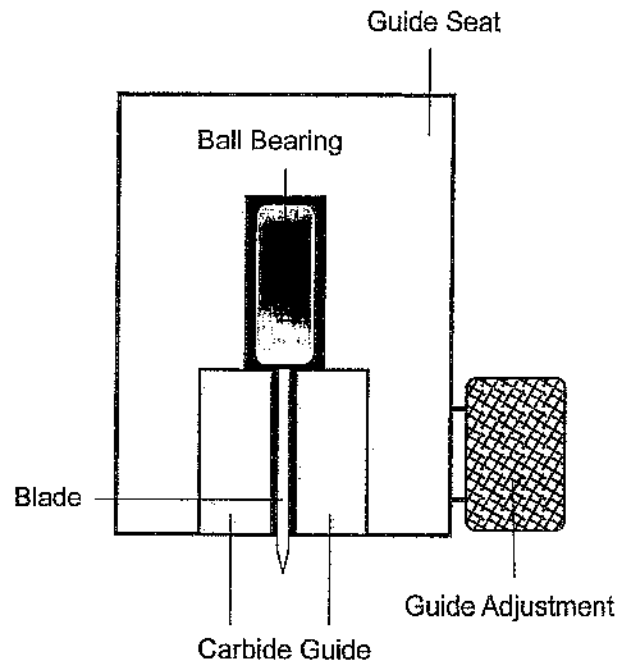

Fig.16
3. Move guide seat (Fig. 16) up or down until a clearance of .08mm to .013mm between back of blade and thrust roller is obtained.